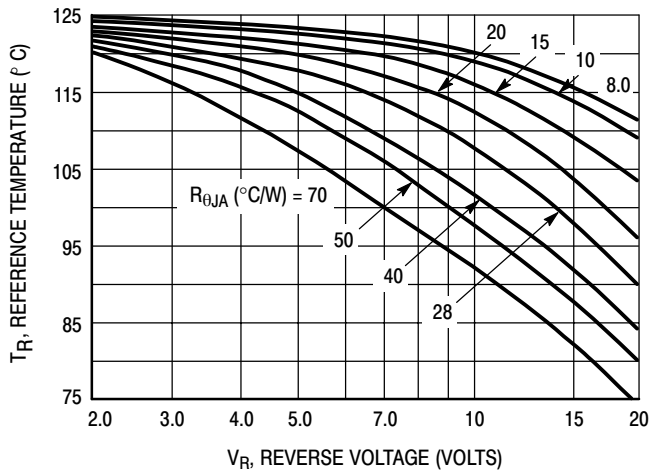

Figure 1. Maximum Reference Temperature
Figures 1, 2, and 3 permit easier use of equation (1) by taking reverse power dissipation and thermal runaway into consideration. The figures solve for a reference temperature as determined by equation (2).
Inspection of equations (2) and (3) reveals that T_R is the ambient temperature at which thermal runaway occurs or where $T_J = 125^\circ\text{C}$, when forward power is zero. The transition from one boundary condition to the other is evident on the curves of Figures 1, 2, and 3 as a difference in the rate of change of the slope in the vicinity of 115°C . The data of Figures 1, 2, and 3 is based upon dc conditions. For